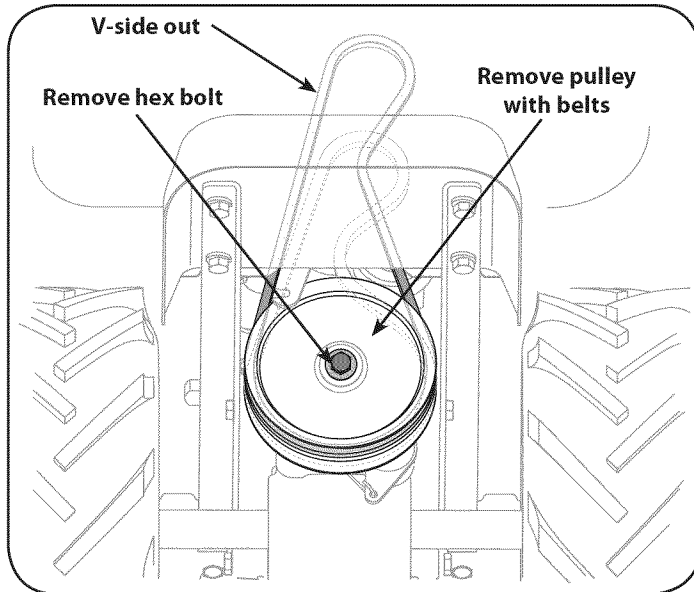

Figure 31
6. Remove the hex bolts securing the transmission drive pulley, then remove the pulley along with the two belts. See Figure 31.